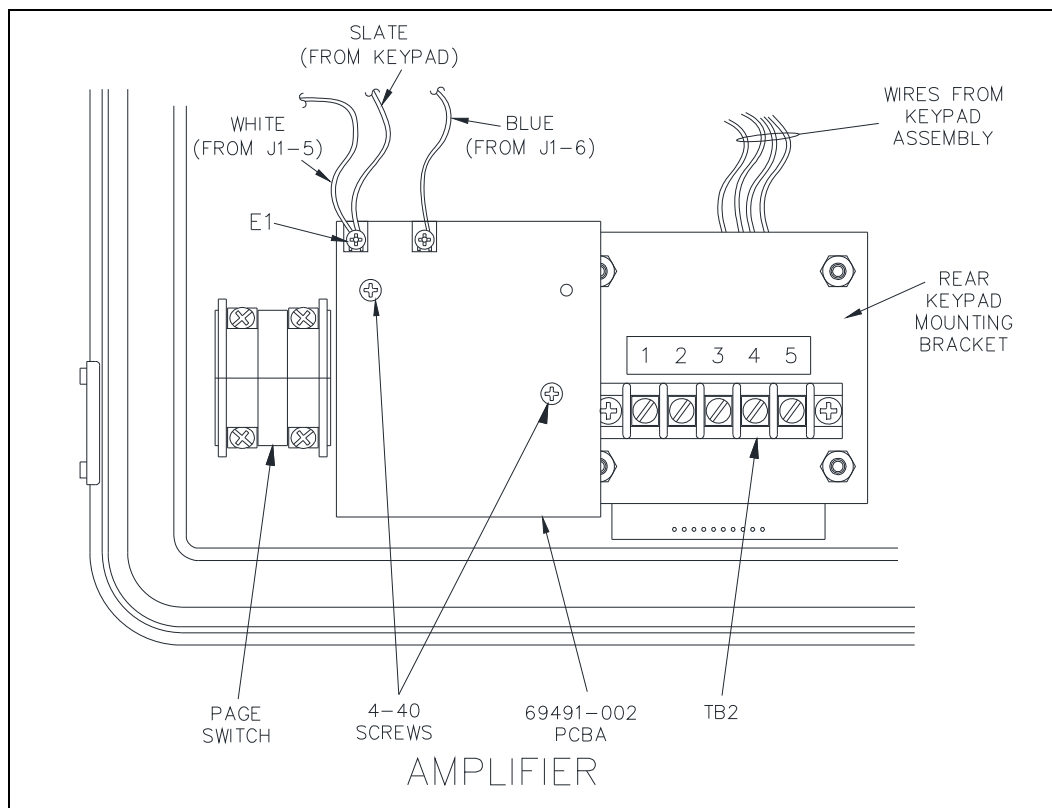

Figure 5. Keypad Removal
4. Cut each tie-wrap that is holding the keypad wires and the No. 69491-002 Amplifier wires to the enclosure wiring harness. Using a Phillips screwdriver, loosen all of the screws to remove the keypad wires from terminal block TB2 and terminal E1 on the No. 69491-002. Re-tighten all loosened screws to ensure that all other wires remain connected to the appropriate locations. See Figure 5.
19. While holding the front keypad panel and keypad assembly in place, put the rear keypad mounting bracket over the hex standoffs. Ensure that the four wires from the keypad assembly exit out of the top (speaker side) of the rear keypad mounting bracket. See Figure 5. Use the four 5/16-inch hex nuts to secure the rear keypad mounting bracket. Tighten the nuts by using an "x" pattern to ensure uniform compression of the front keypad panel.